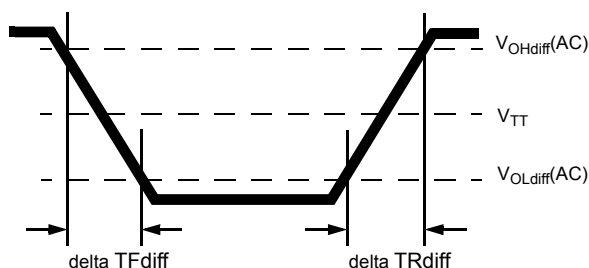

Figure 7. Differential Output Slew Rate Definition
With the reference load for timing measurements, output slew rate for falling and rising edges is defined and measured between VOLdiff(AC) and VOHdiff(AC) for differential signals as shown in Table 14 and Figure 7.